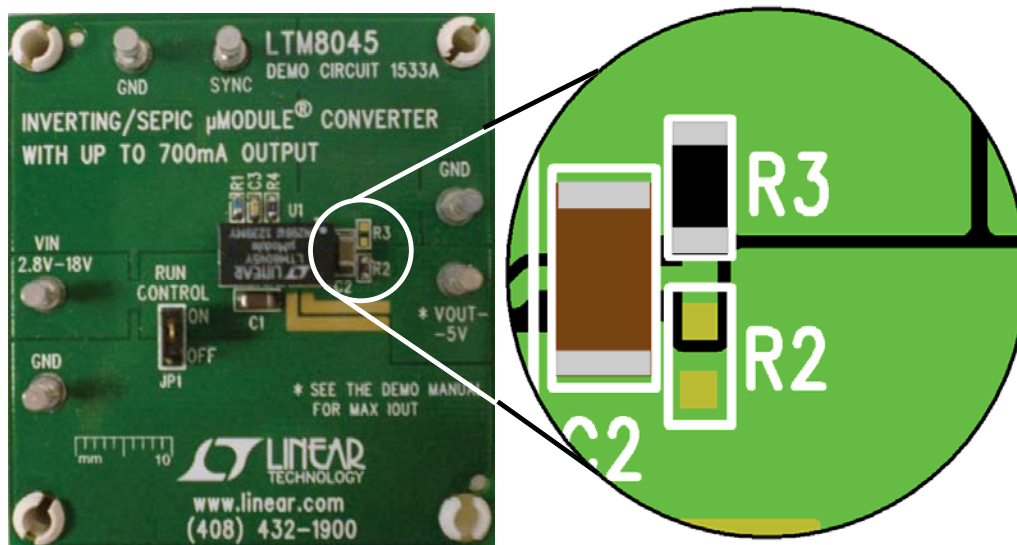

Figure 4
2. Remove R2 and install R3 = 45.3k as shown in Figure 4. R3 MUST BE PRESENT BEFORE OPERATION OTHERWISE THE LTM8045 MAY BE DAMAGED.